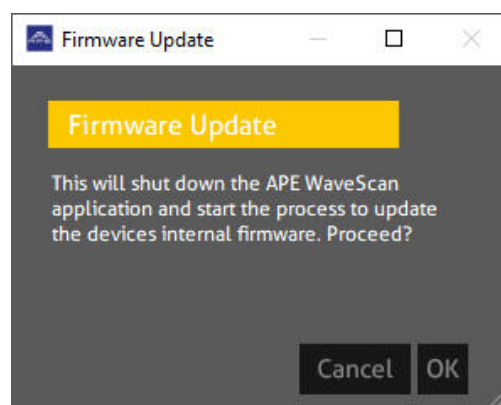

Figure 4.22: Firmware update dialog box.
1. Press the "Update Firmware" button. A dialog box appears (see figure 4.22).